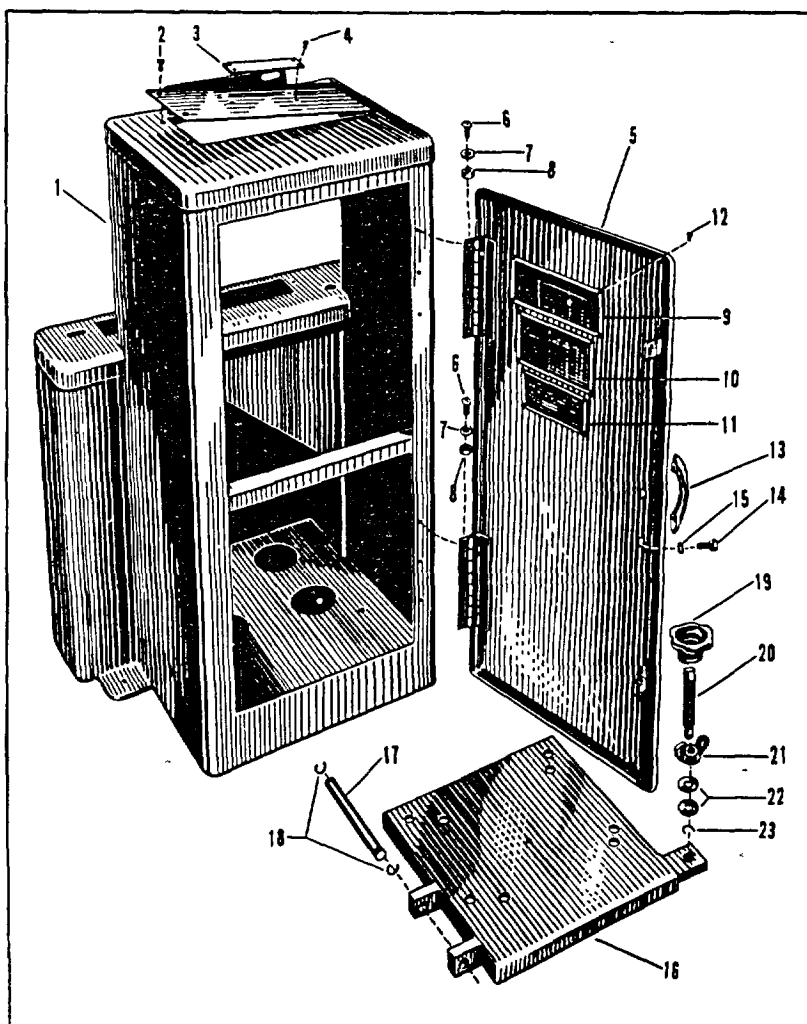

Figure 10. Floor Stand Assembly
☆ Note:	Fig. 10, items 2, 3, 4 illustrates special construction to military specifications. Listed below are the comparable commercial design items.